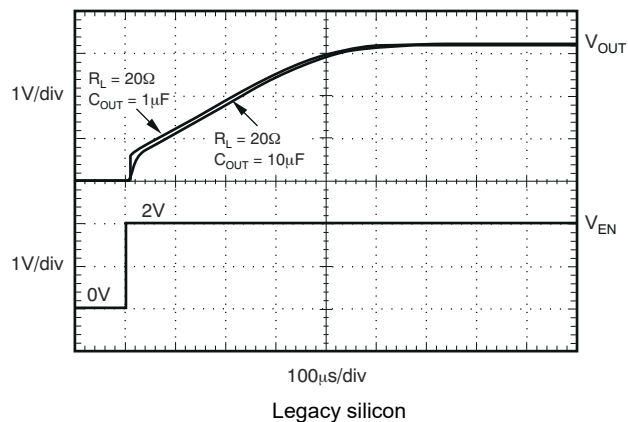

Figure 5-39. TPS73701 Turn-On Response
The enable pin (EN) is active high and compatible with standard TTL-CMOS levels. V_{EN} below 0.5 V (maximum) turns the regulator off and drops the GND pin current to approximately 10 nA. When EN is used to shutdown the regulator, all charge is removed from the pass transistor gate. A V_{IN} above 1.7 V (minimum) turns the regulator on and the output ramps back up to a regulated V_{OUT} (see Figure 5-39).